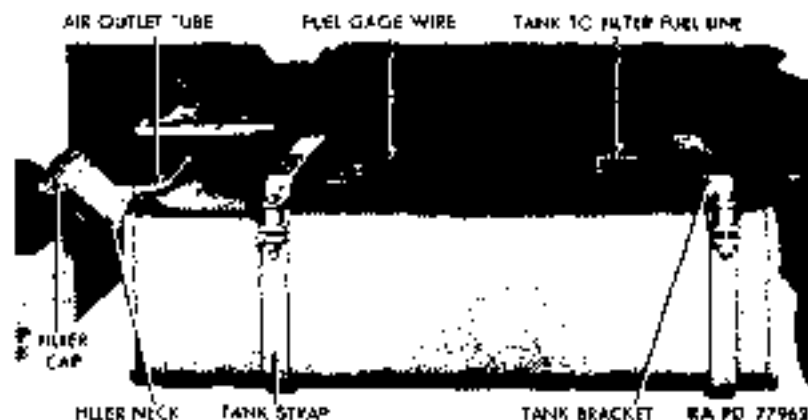

Figure 34 - Removing Fuel Tank Shield
(1) **DESCRIPTION** (fig. 34). The 60-gallon, welded sheet metal fuel tank is located outside the chassis frame ahead of the left rear wheel. It is supported by two cast brackets bolted to the frame side rail and extending out over the tank. It is secured to the brackets by two steel straps. The fuel outlet elbow and gage connection are on top of the tank, protected by a wood shield bolted to the brackets. A drain plug is located on the under side of the tank. A filler
b. Maintenance (fig 34).
(1) Twist tank filler sleeve, and pull from filler neck at time of chassis lubrication. Clean sleeve with dry-cleaning solvent, and dry with compressed air. Install sleeve in filler neck, and check tightness of all strap and mounting bolts.
(2) During cold weather especially, always keep tank nearly full to reduce condensation. Whenever water appears in fuel filter or in fuel pump sediment bowl, remove drain plug from fuel tank. Catch gasoline in clean containers, and strain through a chamois skin or other filter which will remove water. Install drain plug, and refill tank.
(3) Remove gravel, stones, rust, scale, or other foreign matter from tank. **NOTE:** Foreign matter in tank is indicated by clogged tank to filter fuel line, rapid fouling of fuel filter, plugging of drain, or by noise in fuel tank. Remove tank (subpar. c, below). Twist tank filler sleeve, and pull from filler neck. Empty foreign matter from tank through filler neck, rinse tank with dry-cleaning solvent, and inspect for leaks or other damage. Replace tank if damaged. Install tank (subpar. d, below).
c. Removal (fig. 34).